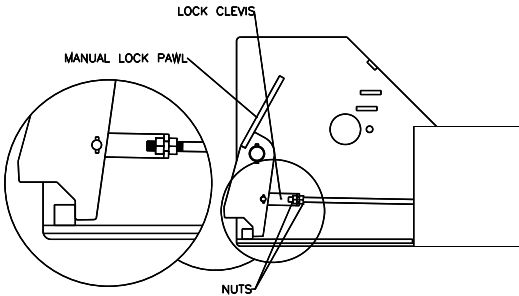

Fig 4 – Lock Clevis
- 4) Check the lock release bar to ensure it is secure and that the lock pawl is in the correct position as shown in **Fig 4**. Adjust if necessary. Verify the lock moves freely and make sure the lock pawl return spring doesn't over-travel and interfere with Lock Ladder.
- 40) Raise lift to working height and lower lift onto locks. Attach the mechanical lock bar to both cross beams using the hairpin cotter pins, make sure the lock bar is positioned onto the saddle/hook inside the runway. **Verify the mechanical lock release moves freely, and lock pawl return spring doesn't interfere with Lock Ladder.** (See Fig 4)